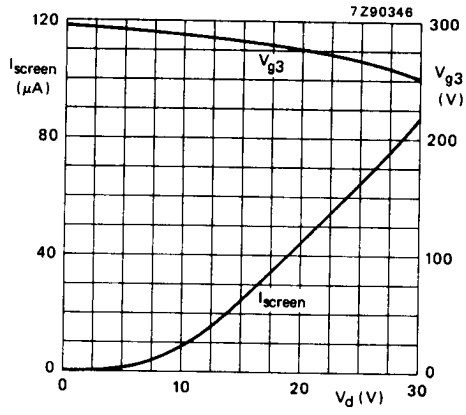

Fig. 5 Screen current ( $I_{screen}$ ) and focusing voltage ( $V_{g3}$ ) as a function of grid drive voltage ( $V_d$ ); typical curves.
4. An actual focus range of approx. 50 V should be provided on the front panel.  $V_{g3}$  decreases with increasing grid drive (see also Fig. 5).
5. Intensity control on the front panel should be limited to the maximum useful screen current (approx. 80  $\mu\text{A}$ ; see also Fig. 5). It is to be adjusted either by the grid drive (up to 30 V) or for maximum acceptable line width. The corresponding cathode current or  $I_{g2,g4,g5}$  (up to 500  $\mu\text{A}$ ) depend on the cut-off voltage and cannot be used for control settings.